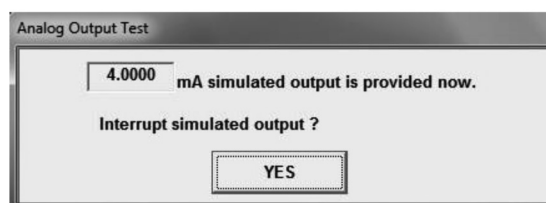

Fig.54
- ④ Clicking on "OK" at ③ starts producing the analog output you selected. While this simulated output continues, a message box as shown in Fig. 54 stays on the screen. To stop the output, click on "YES" button.